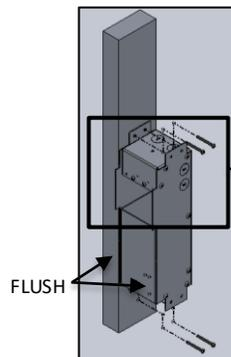

FIG. 9- J-BOX ASSEMBLY TO WALL
4. Attach RECESSED JUNCTION BOX to WALL STUD or CEILING JOIST at desired height and location before drywall is installed as shown below in FIG.9. Use appropriate anchor screws to secure to stud. **(Make sure the front of J-BOX is flush with the surface of the STUD and the large end of the BOX should face downward when mounted in the wall).**